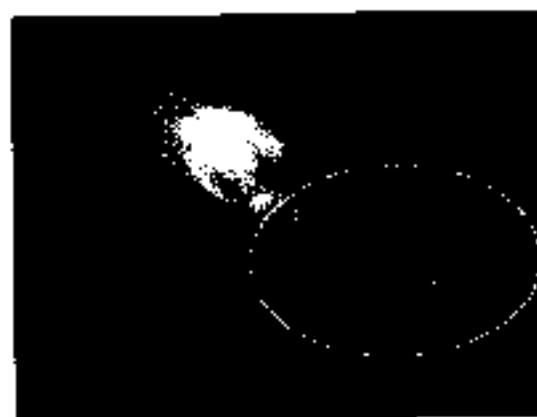

Fig. 3-64 Platform - installing stairs locking pin
- 5 Secure the stairs with the locking pins (fig. 3-64).